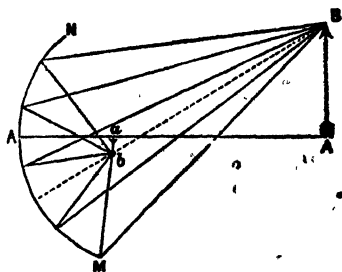

FIG. 10.
4. When the mirror is concave, and the object placed at a distance from the mirror greater than its focal length (Fig. 10), the image is real, inverted, and diminished. Conversely, if we suppose $a b$ an object, $A B$ will be the image, in this case real, inverted, and enlarged.